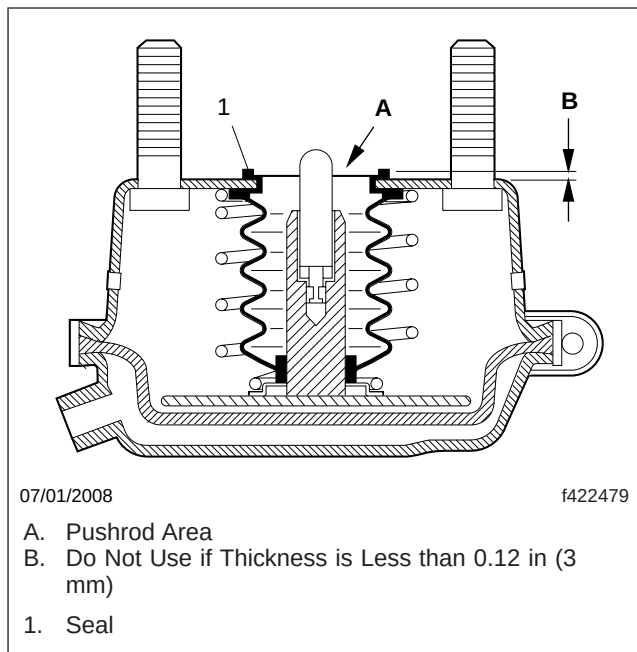
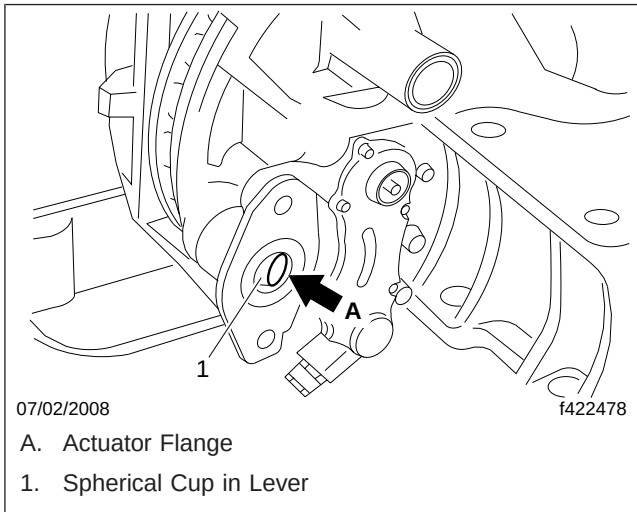

Fig. 1, Pushrod Area
Fig. 3, Actuator Flange
IMPORTANT: Replace the brake chamber, or spring-brake chamber, only with units that are the same as originally installed on the vehicle. Replacement with alternate equipment could compromise brake performance and the vehicle warranty. Do not use brake chambers with seals with a thickness less than 0.12 in. (3 mm). See Fig. 1. Use only brake chambers which are recommended by Daimler Trucks North America (DTNA).
2. Before installing the new brake chamber, clean and inspect the brake chamber flange for damage. See Fig. 3. The seal, as well as the pushrod area must be clean and dry. See Fig. 1.